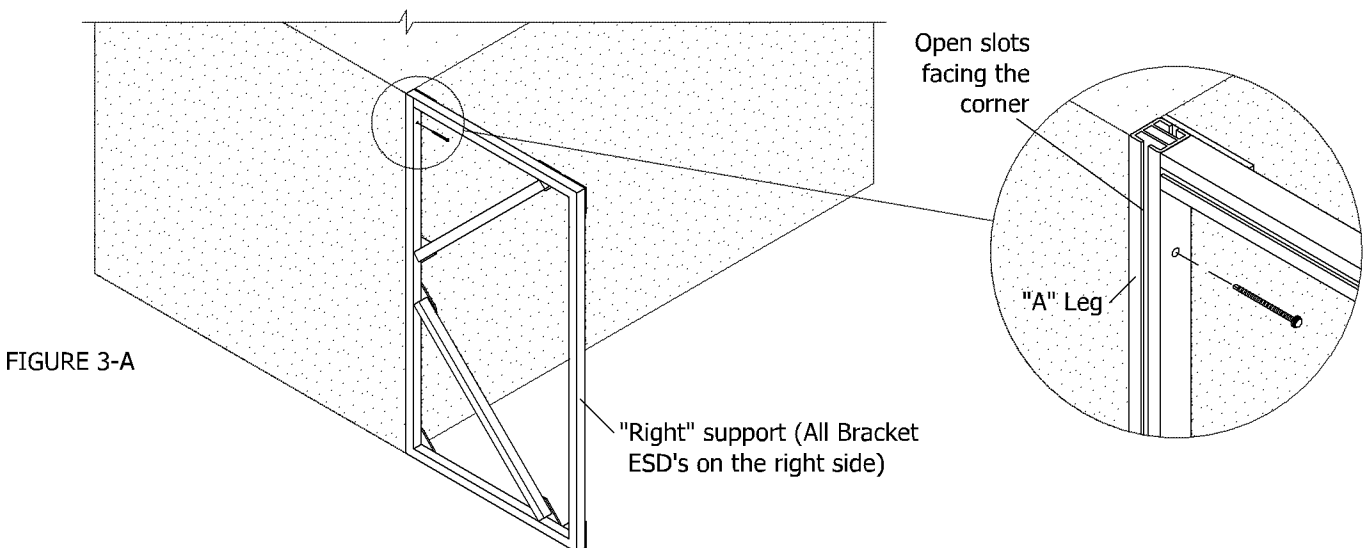

FIGURE 3-A
3. Mount one standoff support to the air handler (see Figures 3-A and 3-B). The bolts and brackets of the standoff support must face away from the corner. As you mount more standoff supports, make sure they are at the same elevation by using a laser level or string for alignment.